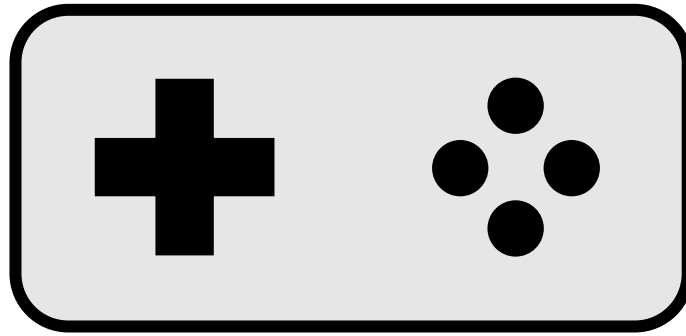

Figure 1
3. Figure 1 below shows a 2D sketch of a toy controller.